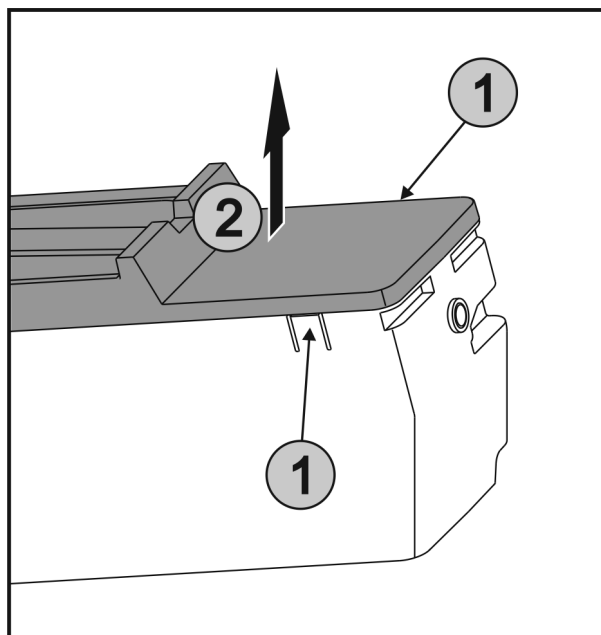

Fig. 31
- ▶ Press the lugs Fig. 31 (1) on both sides of the EasyTwist-Ice simultaneously and take off the cover Fig. 31 (2) upwards.